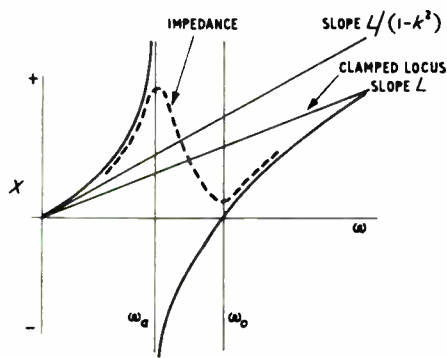

Fig. 4. Loss-free reactance diagram for Fig. 3
The continued-fraction expansion of (5) gives directly, without approximation, the circuit of Fig. 3, for which the (loss-free) reactance diagram is Fig. 4.